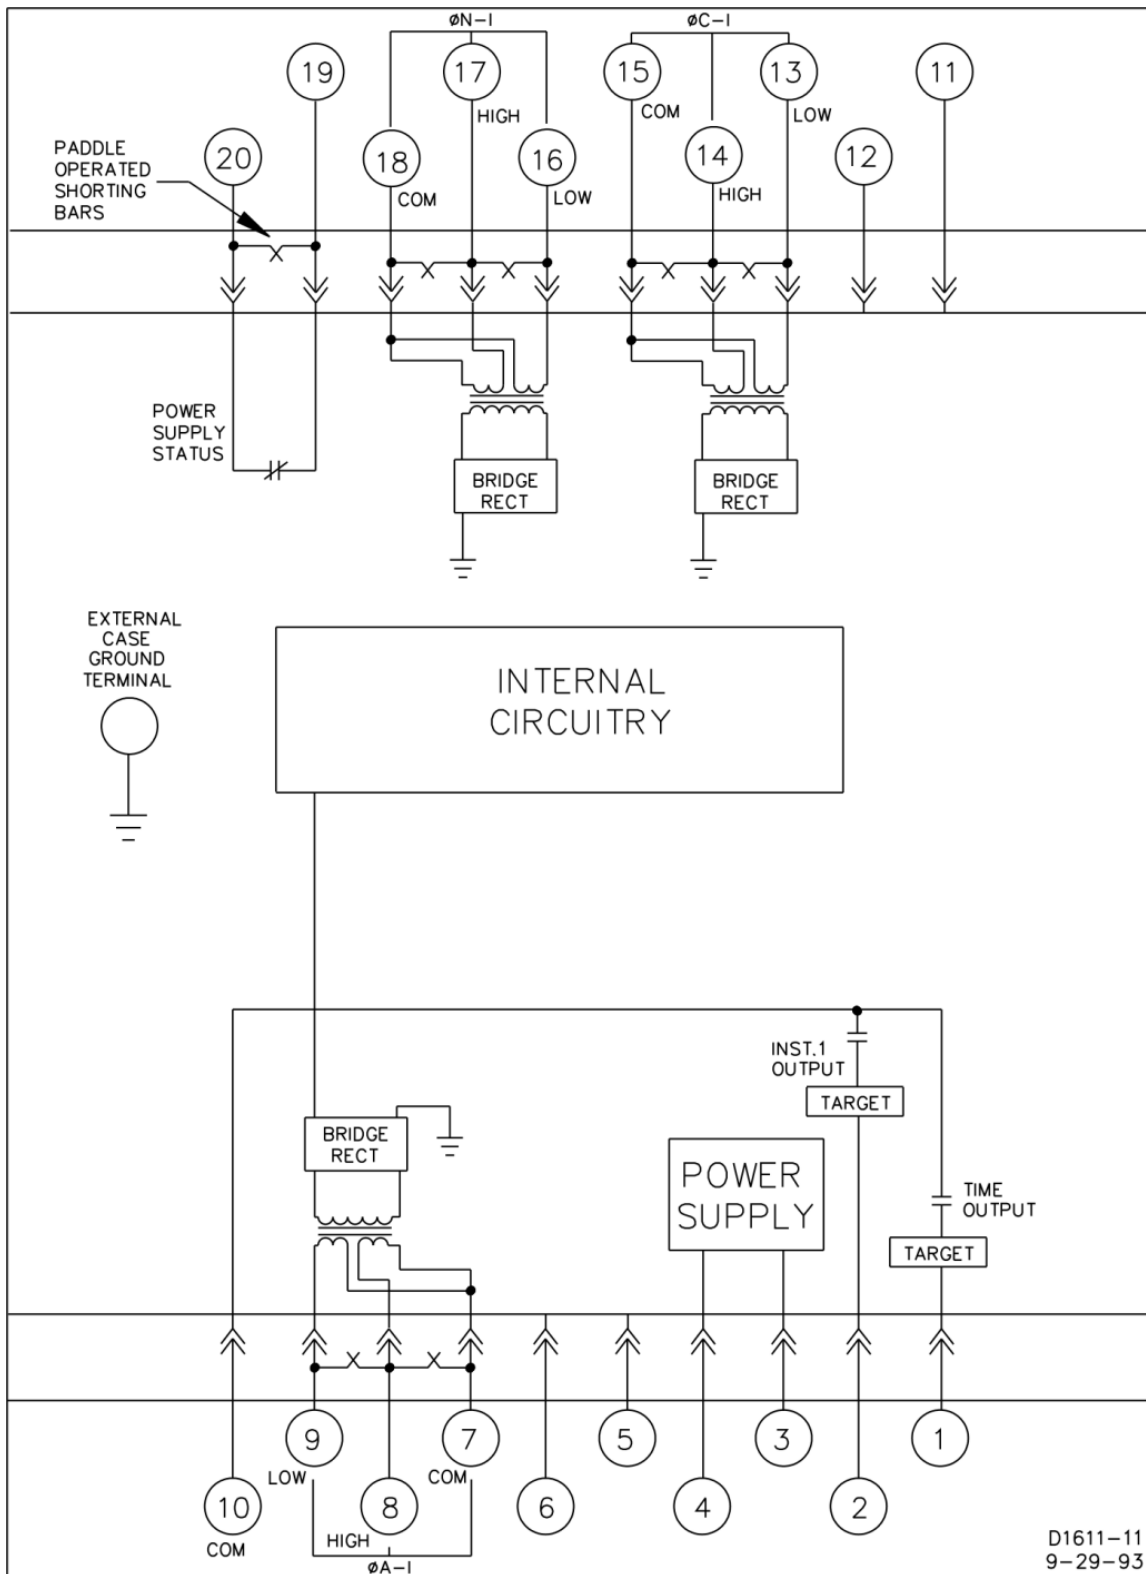

Figure 4-18. Typical Internal Diagram, Sensing Input Type I or X
- Figure 4-18: Typical Internal Diagram, Sensing Input Type I or X